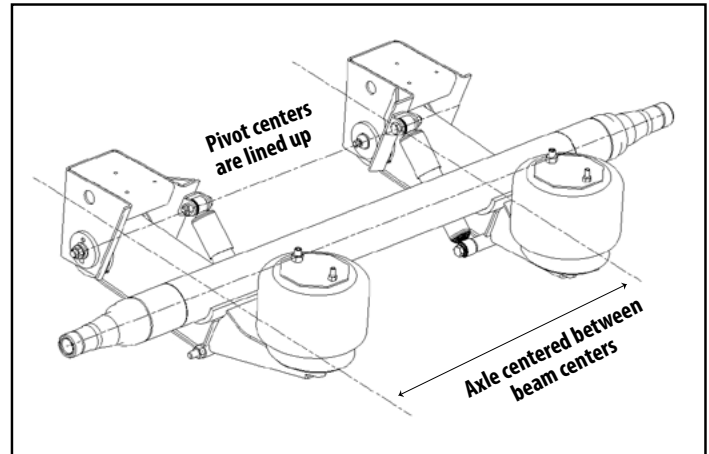

Figure 1.
1. Center the axle assembly between beam centers (Figure 1).